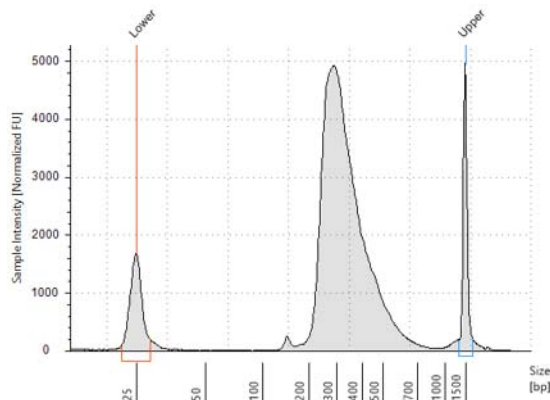
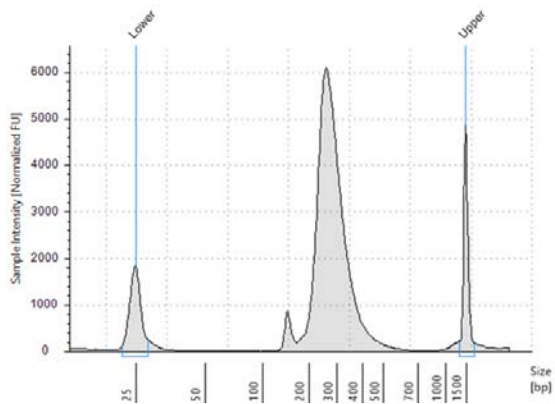

Figure 2 Pre-capture library prepared from high-quality RNA sample (Human Reference Total RNA) analyzed using a D1000 ScreenTape.
Figure 3 Pre-capture library prepared from a typical FFPE RNA sample analyzed using a D1000 ScreenTape.
- 3 Verify that the electropherogram shows the expected DNA fragment size peak position (see Table 27 for guidelines). Sample TapeStation system electropherograms are shown for libraries prepared from high-quality RNA in Figure 2 and from FFPE RNA in Figure 3.